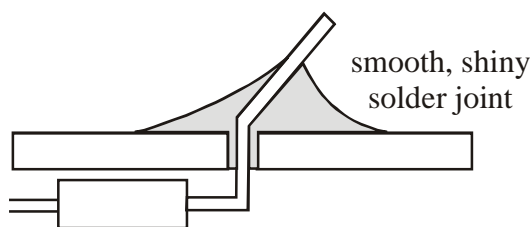

Figure 15.8 A Successful Solder Joint
- (4) Heating the elements to be joined is necessary so that the solder properly wets both elements and a strong bond results. When using electronic components, practice in heating is necessary so that the process is swift enough not to thermally damage the silicon device. Soldering irons with sharper tips are convenient for joining small electronic components, since they can deliver the heat very locally.
- (5) When the work has been heated momentarily, apply the solder to the work (not the soldering iron) and it should flow fluidly over the surfaces. Feed enough solder to provide a robust but not blobby joint. (If the solder balls up on the iron the work is not hot enough.) Smoothly remove the iron and allow the joint to solidify momentarily. You should see a slight change in surface texture of the solder when it solidifies. If the joint is ragged or dull you may have a cold joint, one where the solder has not properly wetted the elements. Such a joint will create problems in conductivity and must be repaired by resoldering. Figure 15.8 illustrates a successful solder joint where the solder has wet both surfaces, in this case a component lead in a metal hole perforated board.